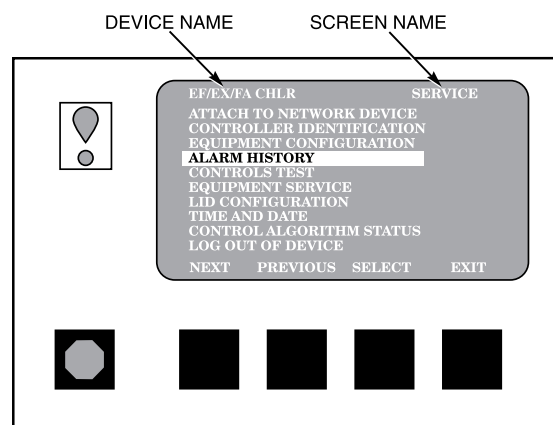

Fig. 11 — LID Service Screen
- When not in the default screen, the upper right-hand corner of the LID always displays the name of the screen that you have entered (Fig. 11).